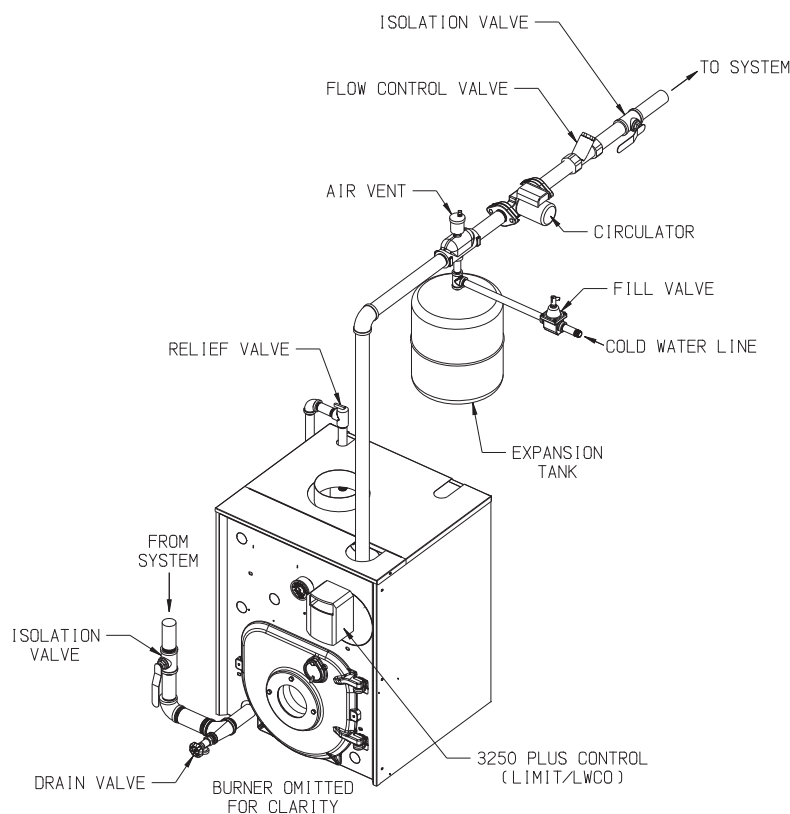

FIGURE 8.1: STANDARD BOILER PIPING
Figure 8.1 shows typical boiler system connections on a single zone system. Additional information on hydronic system design may be found in the *I=B=R* Guide RHH published by Air-Conditioning Contractors of America (ACCA). The components in this system and their purposes are as follows:
- 1) Relief valve (Required) - Mount the relief valve on the top left side of the boiler as shown in Figure 8.1 using the 3/4" nipple provided. The relief valve shipped with the boiler is set to open at 30 psi. This valve may be replaced with one having a pressure up to the "Maximum Allowable Working Pressure" shown on the rating plate. If the valve is replaced, the replacement must have a relief capacity in excess of the DOE heating capacity for the boiler.
- 2) Circulator (Required) - Figure 8.1 shows the ideal location of the circulator which is in the supply piping immediately downstream of the expansion tank. A less ideal, but acceptable, location for most residential circulators is in the return (if this is done, be sure that adequate clearance exists to open the door).